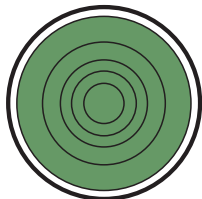

Figure 60. Main Circuit Breaker ON Lamp (ON/GREEN)
- Verify that the **Main Circuit Breaker ON lamp** (Figure 60) is illuminated (**GREEN**). This indicates that **the circuit breaker contacts are closed** and power has been sent to the load.